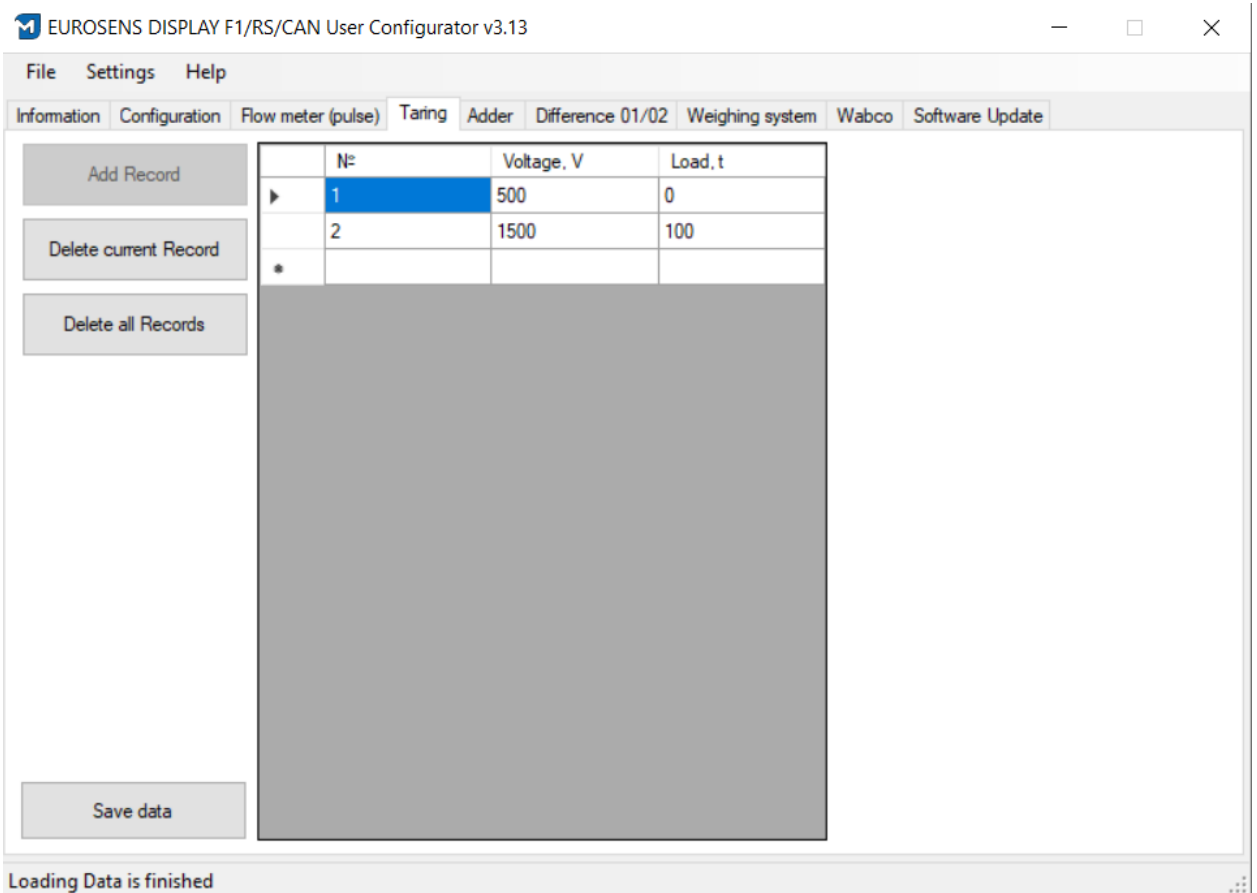

fig. 4.13. Calibration table, "Difference 01" mode
- 6) Based on the data obtained, complete the calibration table (fig. 4.13).